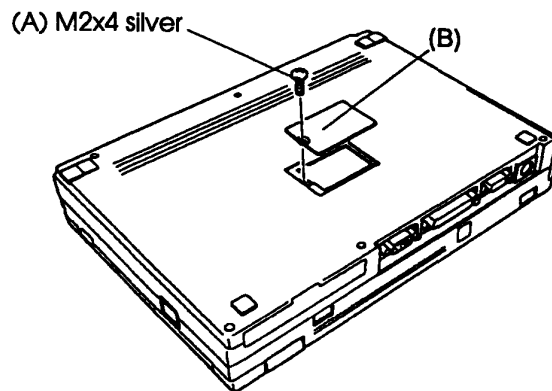

Figure 4-40 Removing the BIOS ROM cover
2. Remove the single (M2x4 silver) screw (A) (Figure 4-40).
3. Remove the BIOS ROM cover (B) to expose the BIOS ROM (Figure 4-40).
3. Place the BIOS ROM cover onto the bottom cover and secure it with the single (M2x4 silver) screw (Figure 4-40).